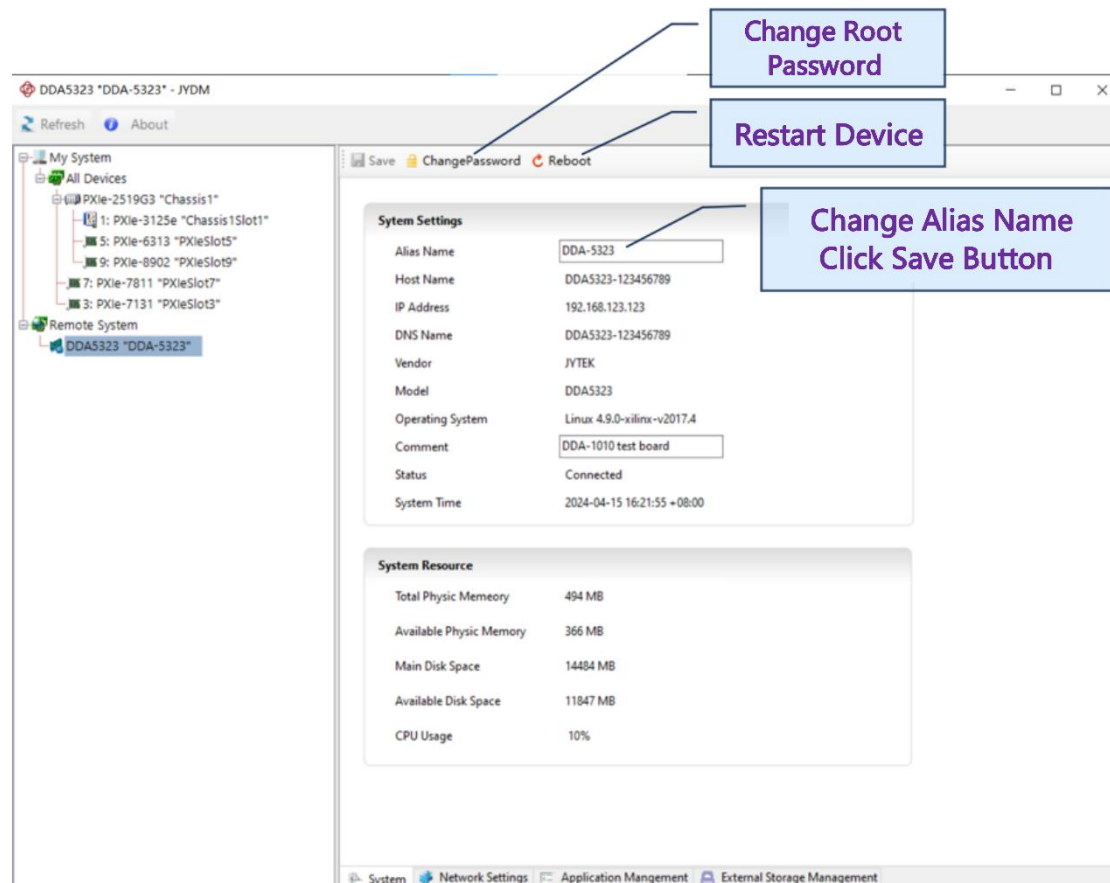

Figure 9 System Initial
- There are three buttons above the status bar, and the functions they possess are shown in Figure 9.